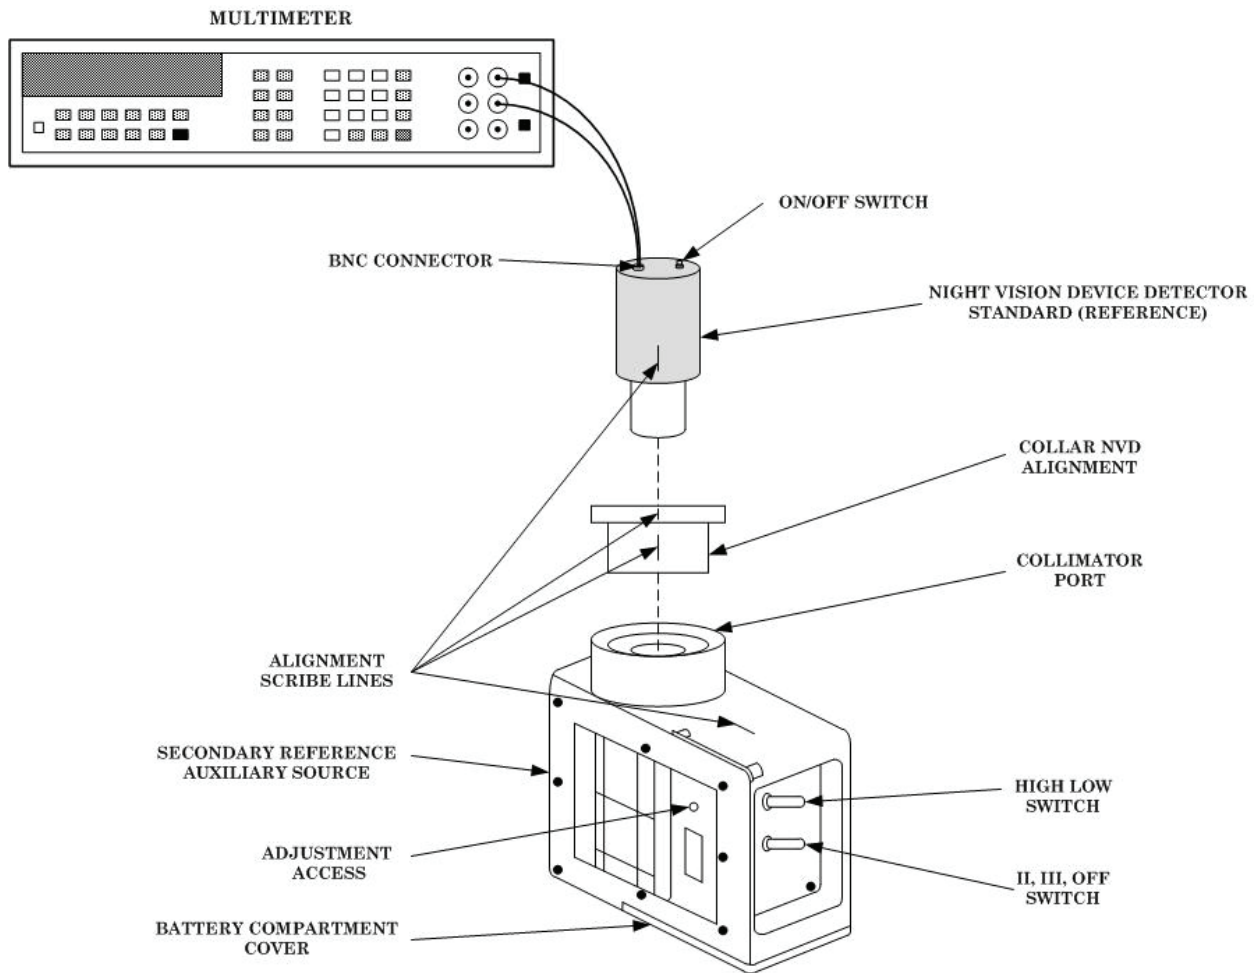

Figure 2. Night vision device detector (standard) - equipment setup.
d. Firmly seat secondary reference NVD detector standard (blue anodized) into the NVD alignment collar, rotating in a clockwise direction until the scribe lines on the reference detector standard are in alignment with the auxiliary source scribe lines (fig. 2).
- e. Connect the reference NVD detector standard to multimeter (fig. 2).
- (2) Zero multimeter indication.
- (3) Verify that reference NVD detector standard noise level does not exceed ± 0.02 mV. (No adjustments can be made. Return reference standard to primary laboratory for maintenance/repair.)
- (4) Set auxiliary source **HIGH LOW** switch to **HIGH**.
- (5) Set auxiliary source **II, III, OFF** switch to **II**, and allow the auxiliary source to warm-up for 10 minutes.
- (6) Momentarily de-energize auxiliary source, re-zero multimeter, as required, and then reenergize auxiliary source.
- (7) The multimeter indication shall be between 0.99 and 1.01 of the V (STD). If not, adjust auxiliary source through the adjustment access hole (fig. 2) for in-tolerance reading. Refer to calibration test report to obtain V (STD) value. If adjustment cannot be made, return reference detector standard and auxiliary source to primary laboratory for recertification.